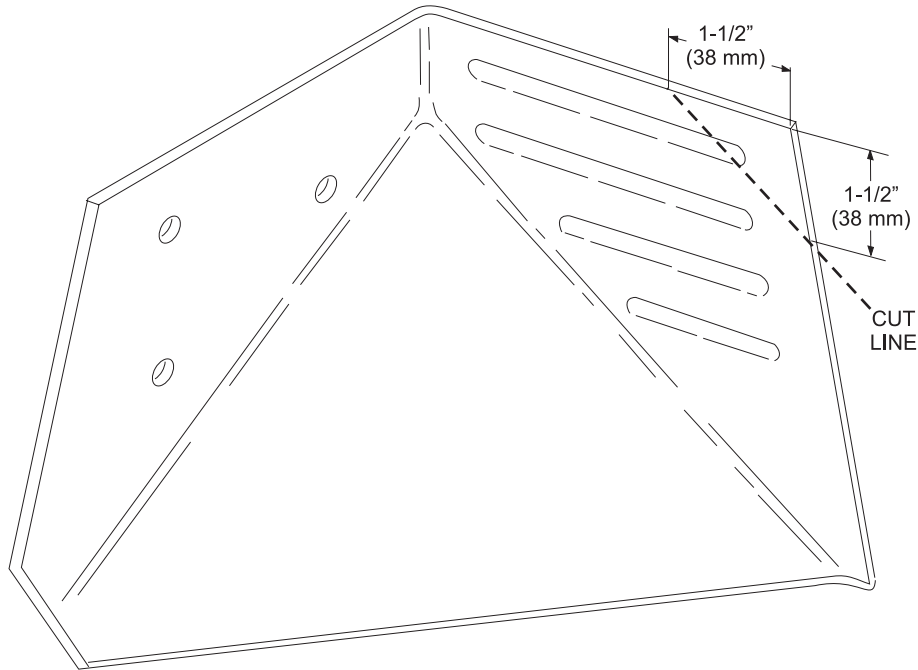

Figure 7
12. Before reinstalling the pin deflectors to the mounting brackets, the pin deflector on the ball door side of the elevator must be cut to provide clearance for the ball cushion stop bracket. Measure 1-1/2" (38 mm) back toward the elevator and 1-1/2" (38 mm) down toward the transport band and mark both points. Using a straight edge draw a cut line from one mark to the other. This should provide proper clearance between the pin feed deflector and the cushion bracket. Refer to *Figure 7*.